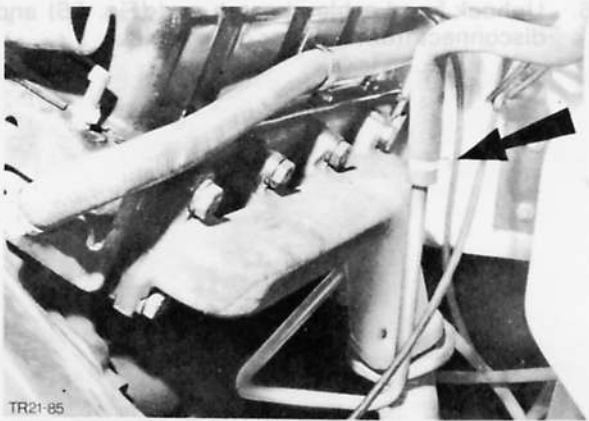

Fig. 19. Remove brake servo vacuum hose
13. Disconnect brake servo vacuum hose from pipe and remove, Fig. 19.